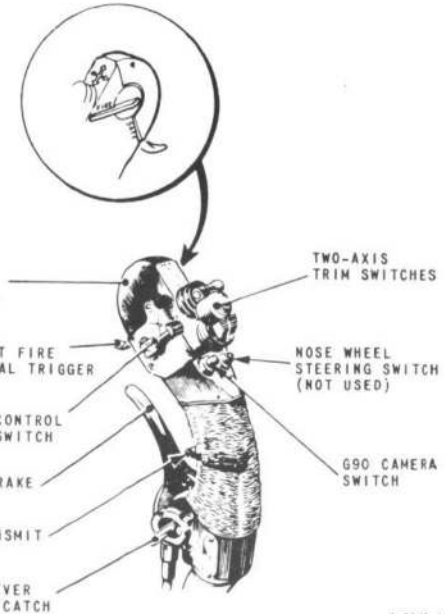

Fig. 2. Control handle
Control handle (fig. 2)
10. Rudder trim is controlled by two 2-way switches on the port console which are normally operated together. Aileron and tail-plane trim is effected by dual 4-way switches on the control handle (fig. 2). The switches are moved fore-and-aft for tail-plane trim and laterally for aileron trim (Sect. 6, Chap. 3).